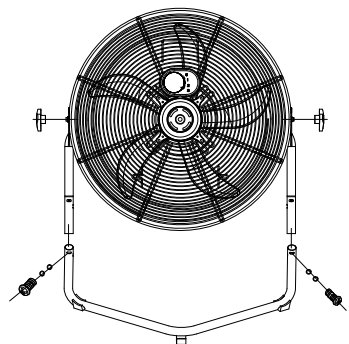

Figure. 1
4. Align the screw holes and secure with the screws, lock washers and flat washers from step 1. (See Figure 1)